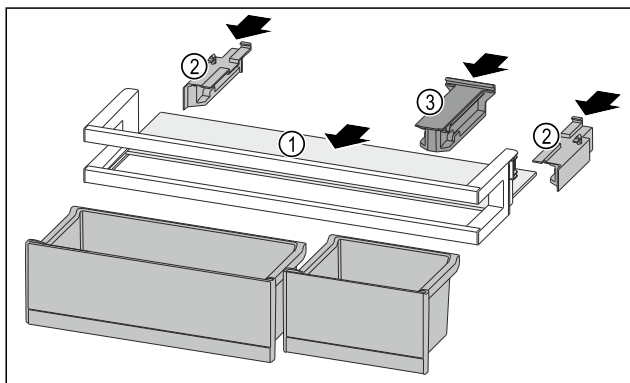

Fig. 231
- Push the shelf Fig. 231 (1) into the side recesses.
- Insert the side parts Fig. 231 (2).
- Insert the holding part Fig. 231 (3).